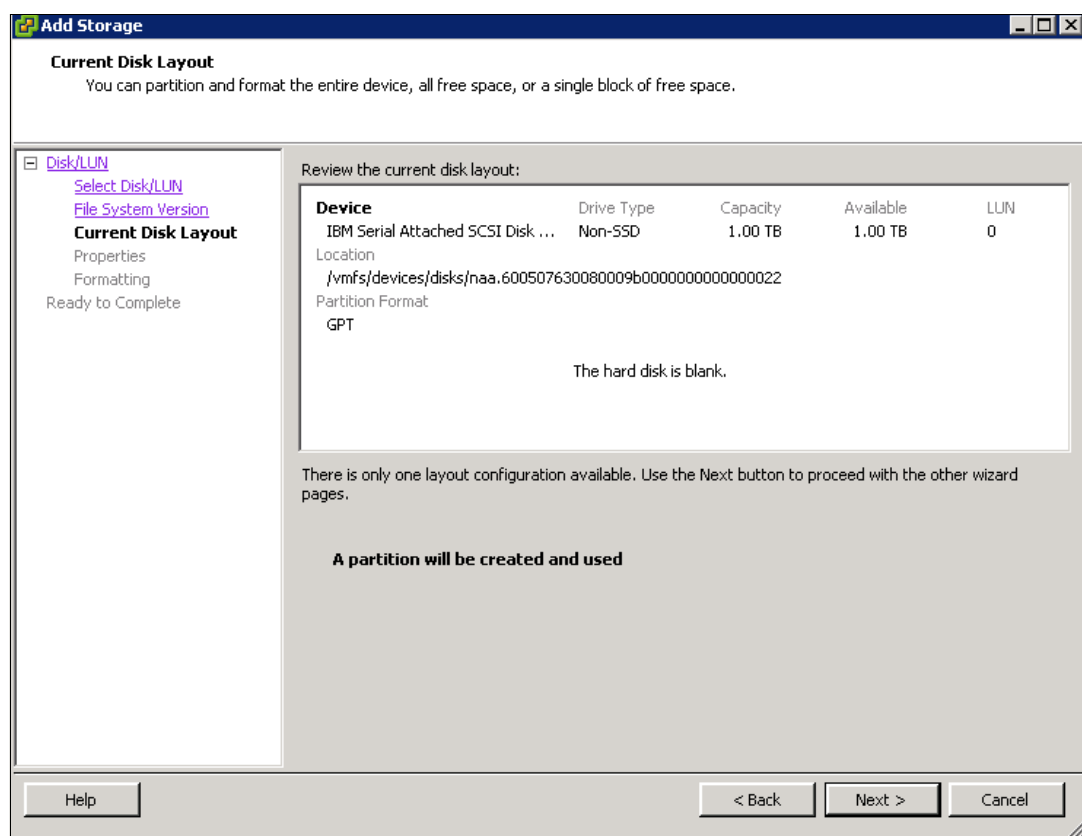

Figure 5-88 Current Disk Layout
10. Review the disk layout and click **Next**, as shown in Figure 5-88.